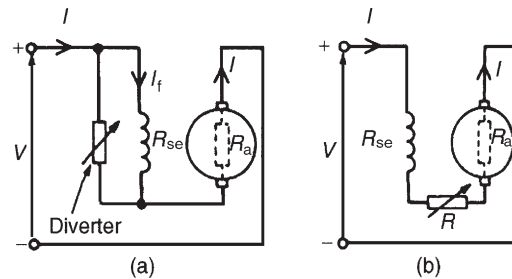

Figure 22.30
hence flux, for a given value of supply current. A circuit diagram of this arrangement is shown in Fig. 22.30(a). A variable resistor connected in parallel with the series-wound field to control speed is called a **diverter**. Speeds above those given with no diverter are obtained by this method. Problem 29 below demonstrates this method.
- (b) Speeds below normal are obtained by connecting a variable resistor in series with the field winding and armature circuit, as shown in Fig. 22.30(b). This effectively increases the value of  $R$  in the equation
With the  $0.2\ \Omega$  diverter in parallel with  $R_{se}$  (see Fig. 22.30(a)), the equivalent resistance,
$$I_1 \text{ (in Fig. 22.30(a))} = \left( \frac{0.2}{0.2 + 0.05} \right) I = 0.8 I$$
With reference to Fig. 22.30(b), at 800 rev/min,